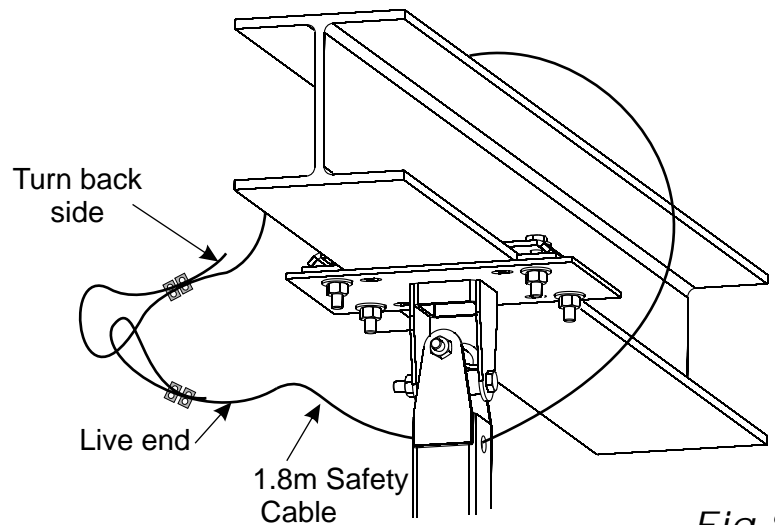

Fig.8
• How to install the standard mount (Fig.8)
2. Insert the bolts, washers and tighten the nylocks (Fig.8).
3. Position the safety cable as per Fig.8, loop at both ends.